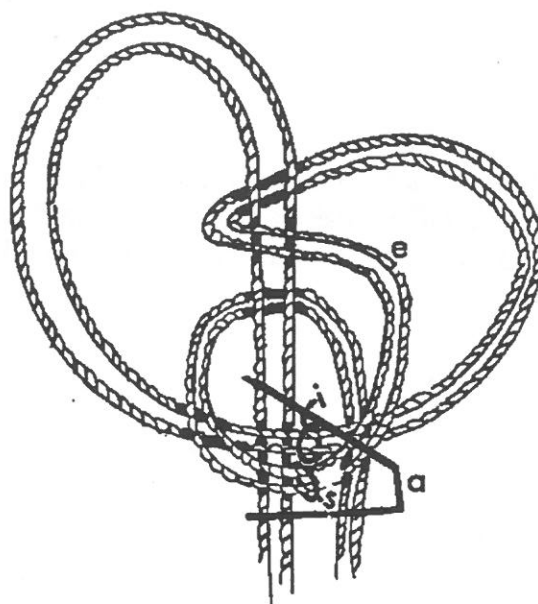

Figure 5
5. Still holding "s" with left hand, flip "s" over all middle ropes while bringing down over "i" to **RIGHT THUMB** at "a" and **HOLD** as in Fig. 5.